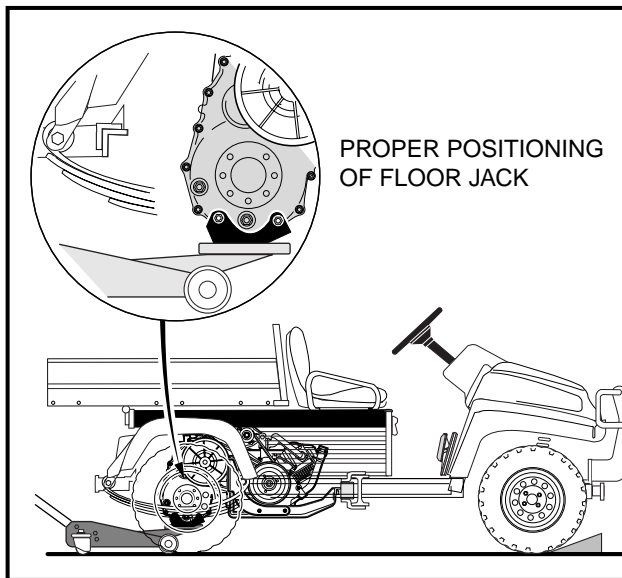
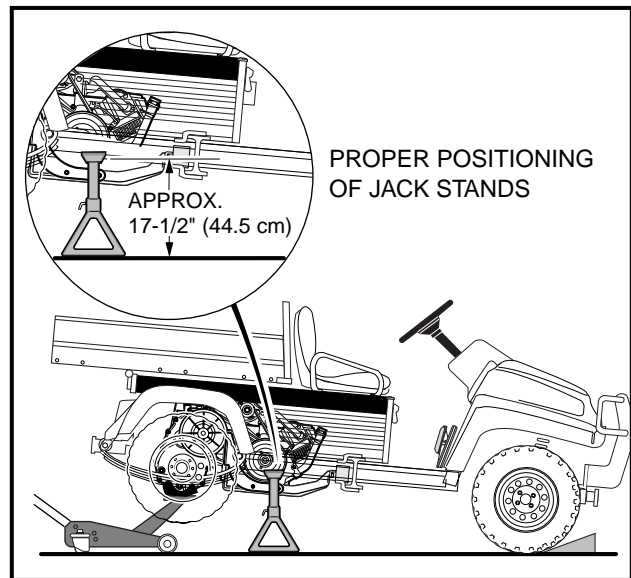

Figure 16-28 Raise Vehicle
Figure 16-29 Position Jack Stands
6. Using a hydraulic jack placed under the transaxle (**Figure 16-28, Page 16-13**), raise the vehicle and place jack stands, set at approximately 17-1/2 inches (44.5 cm) in height, under the frame as shown (**Figure 16-29, Page 16-13**).